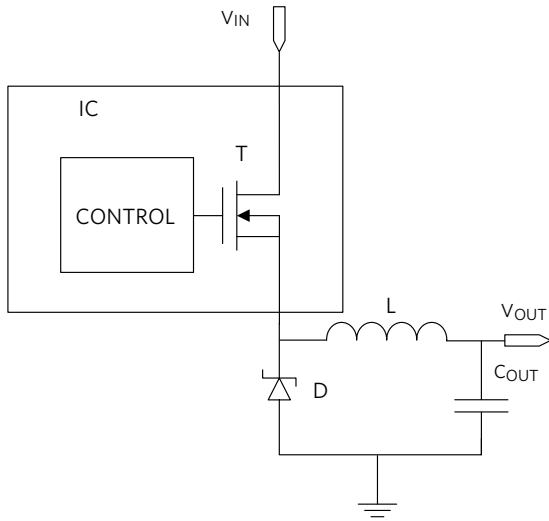

Figure 1. Non-synchronous buck converter
For a 24V input and 5V output, the buck converter works with a duty cycle of about 20%. This means that the internal high-side transistor (T in Figure 1) conducts only 20% of the time. The external rectifier diode (D) conducts the remaining 80% of the time which accounts for the majority of the power dissipation.